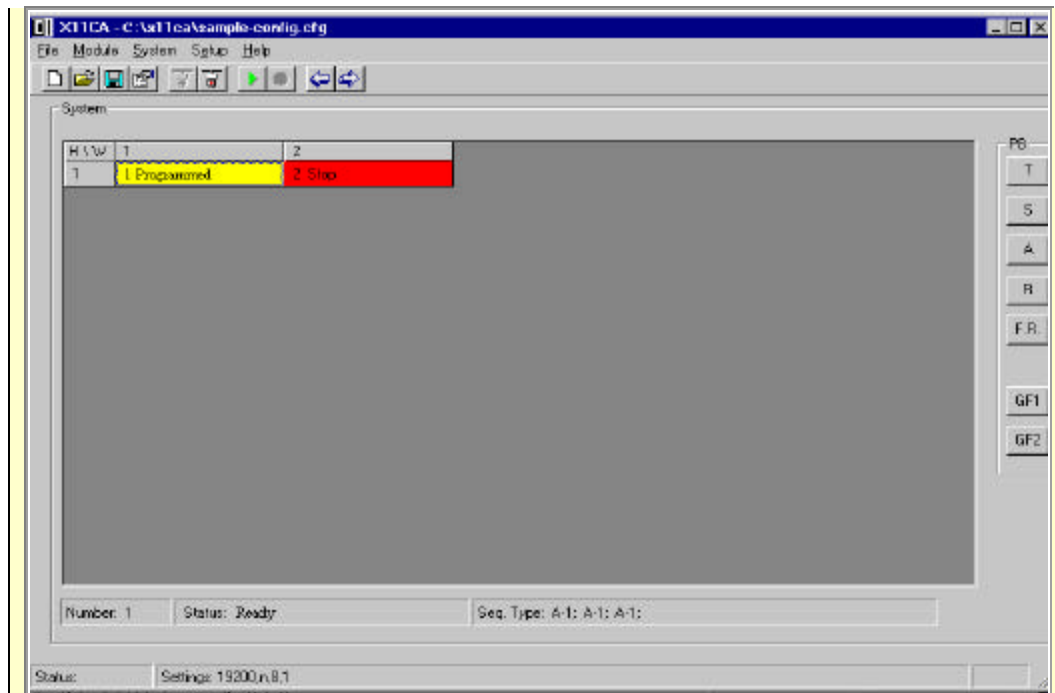

Figure 4-37 Programming the First Module
- 8) Wait until the micro-controller completes programming. When the programming is done successfully, each logical module cell will display the message, 'Programmed', in the yellow background as shown in the Figure 4-37, and then returns to *Stop* mode.